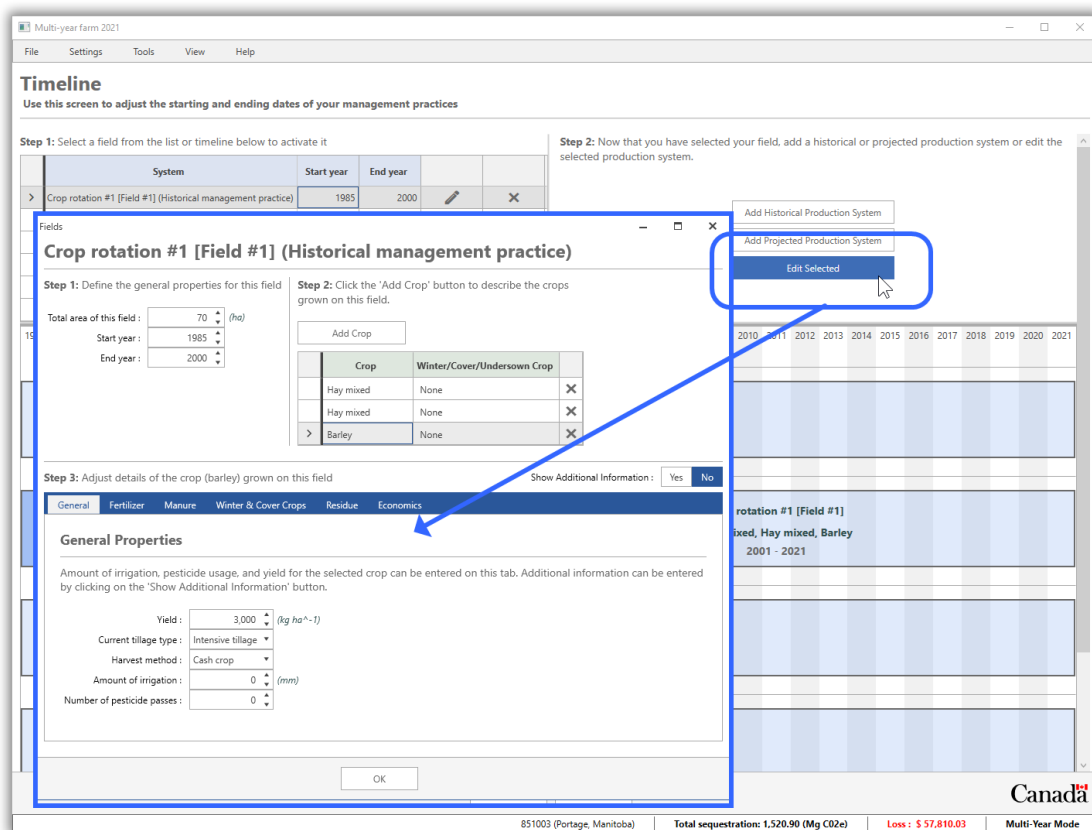

Figure 12: Editing crops in a historical period of the rotation
4. We then click the “**Edit Selected**” button. This will open a new screen (Figure 12) that allows us to adjust the crops grown and the management during this period.